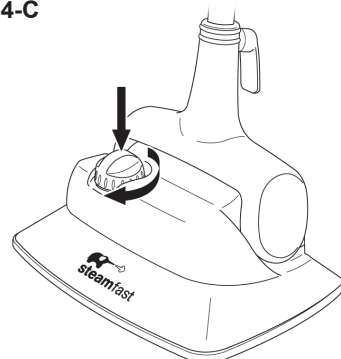

FIGURE 4
2. Carefully remove Boiler Cap by unscrewing it in a counter-clockwise direction (FIGURE 4-A).
3. Fill included Measuring Cup with 8.5 oz. (250 ml.) water, and pour into Boiler through Boiler Fill Hole (FIGURE 4-B).
5. Replace Boiler Cap by screwing it into Boiler Fill Hole in a clockwise direction until tight (FIGURE 4-C). Unit is now ready to begin steaming – refer to Page 9 for operating instructions.